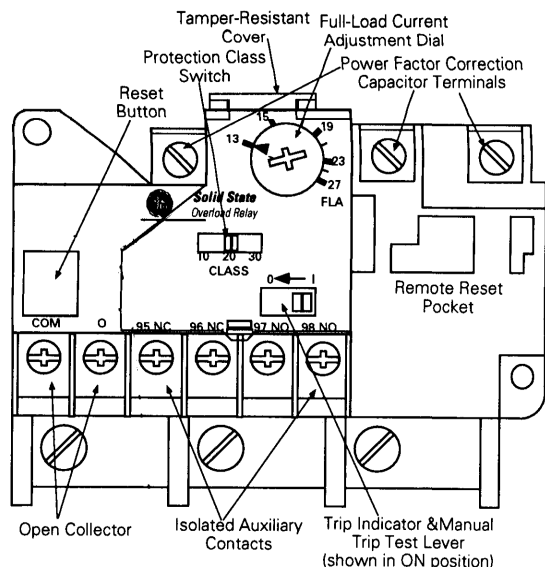

Figure 2. Top face of Solid State Overload Relay, with controls and features indicated.
8. Connect the control and power wiring to the terminals on the load side of the Solid State Overload Relay, shown in Figure 2.
10. Fully depress the blue reset button on the Solid State Overload Relay to insure that it is in the reset position. The yellow trip flag will be at its right position, as illustrated in Figure 2.
The following adjustments to the Solid State Overload Relay are illustrated in Figure 2. The adjustments should be performed in the following order.